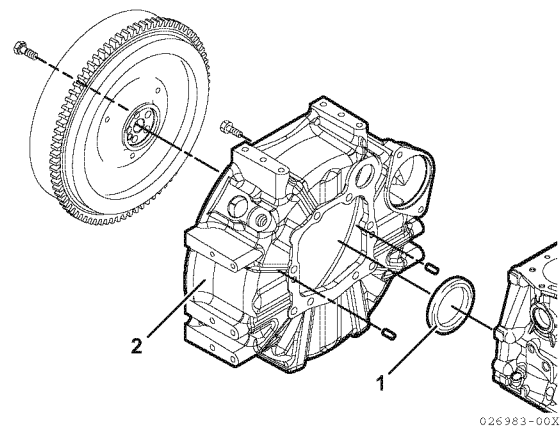

Figure 6-59
- Remove the rear oil seal (**Figure 6-59, (1)**) from the flywheel housing (**Figure 6-59, (2)**).